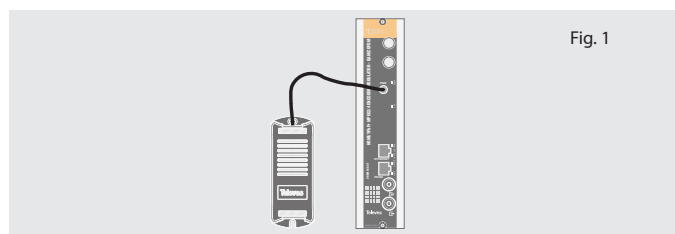

Fig. 1
1. Install the unit in the rack and connect it as shown in figure 1.